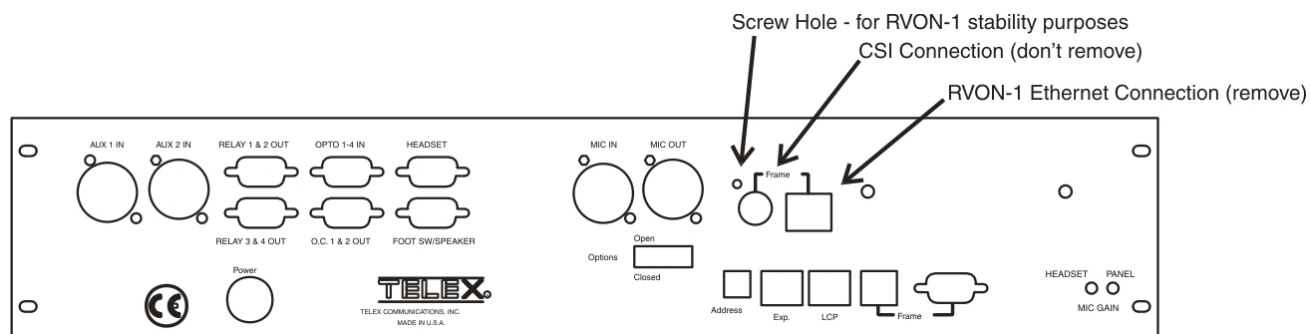
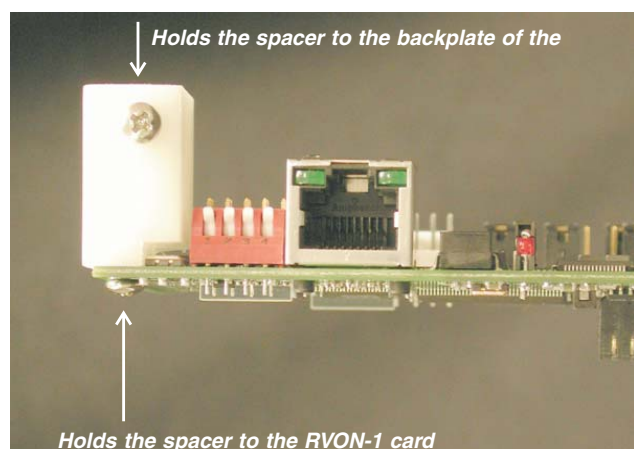

Figure 2. Knock out positions for the RVON-1 card on the KP-32.
Figure 3. The placement of the spacer and screw position on the RVON-1 card for KP-32 series keypanels.
4. Using a hammer and screwdriver, remove the specified knockout pieces. See Figure 2.
5. Mount the supplied spacer on the RVON-1 card on the corner of the card near the DIP switch. See figure 3. For more resources concerning the RVON-1 Installation, see Installation of the RVON-1 Card (cont.) on page 11.
8. Re-attach the backplate to the KP-32 keypanel. Be sure to secure the spacer with a screw in the back plate. See figure 2 and figure 3.
5. Using a screwdriver, attach the Ethernet connector cable mount to the backplane on the KP-812. See Figure 2.